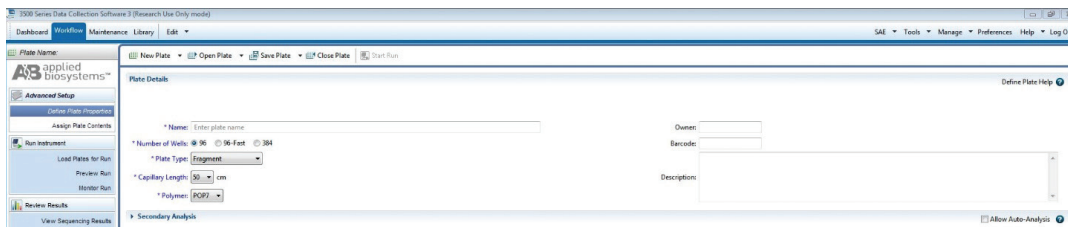

Figure 8. Defining plate properties.
4. Assign a descriptive plate name. Select the plate type Fragment from the drop-down menu (Figure 8).